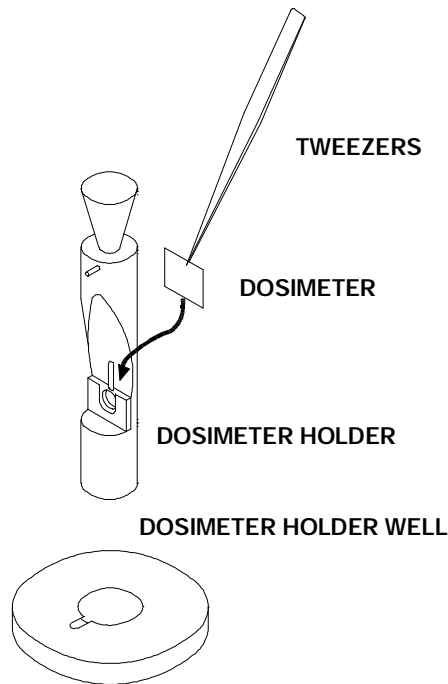

Figure 4 Inserting Dosimeter into Dosimeter Holder
| Figure 4 Inserting Dosimeter into Dosimeter Holder | 6 |
3. Insert the dosimeter into the holder using a pair of tweezers. See **Figure 4 Inserting Dosimeter into Dosimeter Holder**.